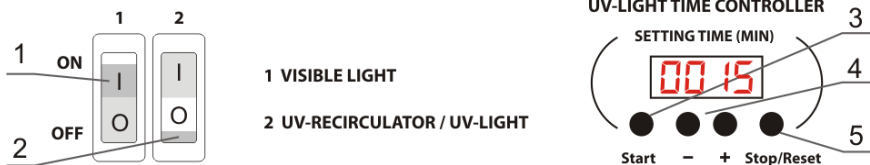
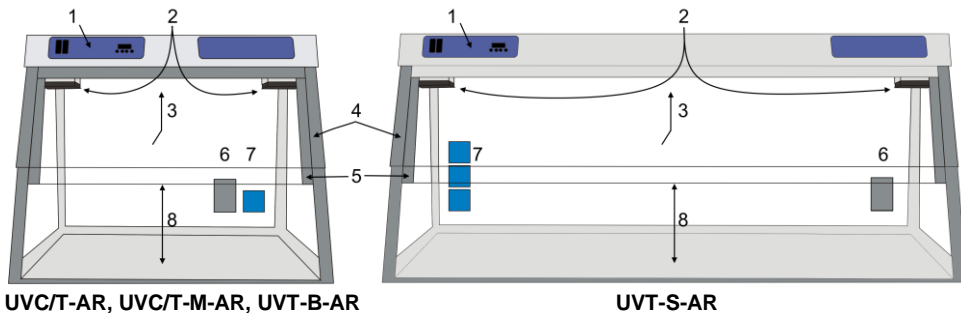

Figure 2. Control panel
Figure 3. DNA/RNA UV box, frontal view:
5.2.1 Turn ON the switch **2** (fig. 2/2) on the control panel (fig. 3/1). This switches on the UV recirculator inside the unit (fig. 3/2) and the open UV-lamp exposition timer. The UV recirculator will operate all the time until the switch **2** is turned OFF.
5.2.2 Use the timer **+** and **-** keys (fig. 2/4) to increase and decrease the time (SETTING TIME) of direct UV light exposition of the working place, with 1 min increment. Pressing down and holding the button for more than 2 seconds increases the increment. Recommended time of exposition is two sessions of 30 minutes, once after switching on the cabinet, once before operations inside.
5.2.3 Press the **Start** key (fig. 2/3), the UV lamp will be turned on automatically and the timer will start counting the exposition time. Timer indicator shows actual time: until 1 hour - in minutes and seconds (mm:ss), after 1 hour - in hours and minutes (hh:mm). After reaching the set time the timer will automatically turn off the open UV lamp.
5.2.4 The open UV lamp can be switched off by pressing the **Stop/Reset** key (fig. 2/5). The set time of exposition will be saved in the memory. The set time will not be saved after the complete turning off the unit.
5.3.1 Turn ON switch **1** (fig. 2/1) for lighting of the working place. This turns ON the luminescent (visible light) lamp inside the cabinet (fig. 3/3).
5.3.2 Lift the front protective screen (fig. 3/5) up for work in the cabinet. Models have different maximum opening heights (fig. 3/8), as listed in the **Specifications** section, and may be raised to the following positions:
**Note.** Do not block the recirculator openings (fig. 3/2)!
5.3.3 To use electric devices inside the cabinet, pull their power cable through the inlet and close the flap (fig. 3/6) or connect the power cable to a built-in mains socket (fig. 3/7, models with mains socket).
8.4 **Dust filter replacement.** The dust filters (fig. 3/2) on either end of the UV recirculator with the hidden UV lamp should be checked monthly and cleaned or replaced when they become clogged. To check, replace or clean the filters, simply unclip the covers, fit a new filter if necessary or rinse current filters in water, dry and place back. Clip covers back in place.